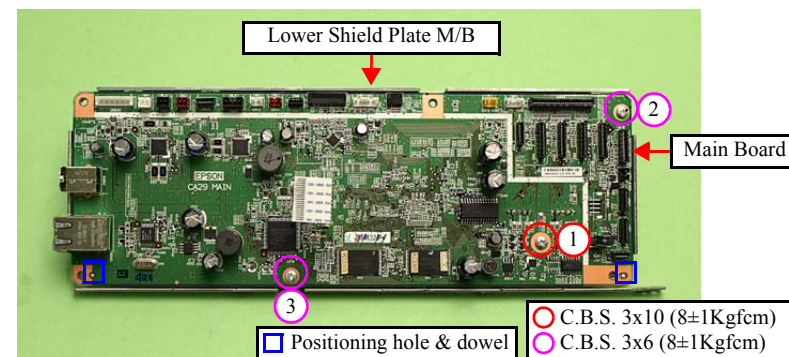

Figure 4-42. Removing the Main Board (2)
- Align the positioning holes (x2) of the Main Board with the dowels (x2) of the Upper Shield Plate M/B. (See Fig. 4-42.)
- When installing the Main Board, tighten the screws in the order shown in Fig. 4-42.